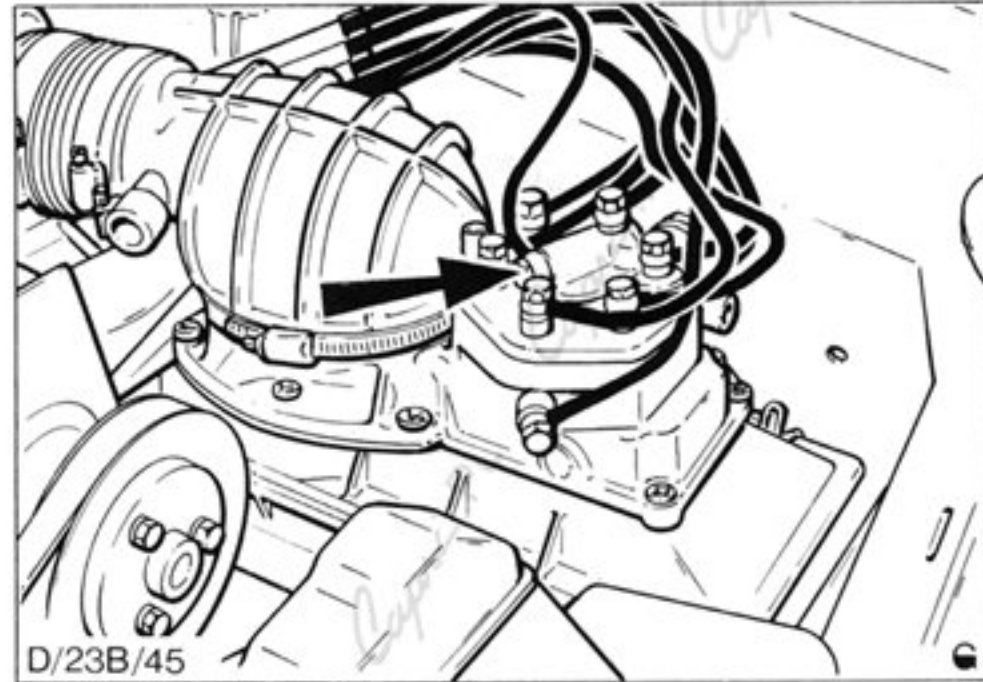

Fig.101. Warm up regulator feed pipe at fuel distributor.
3. Position a piece of absorbent cloth beneath warm up regulator feed pipe at distributor, refer Fig.101. Release pressure in system by loosening union at distributor and then tightening.